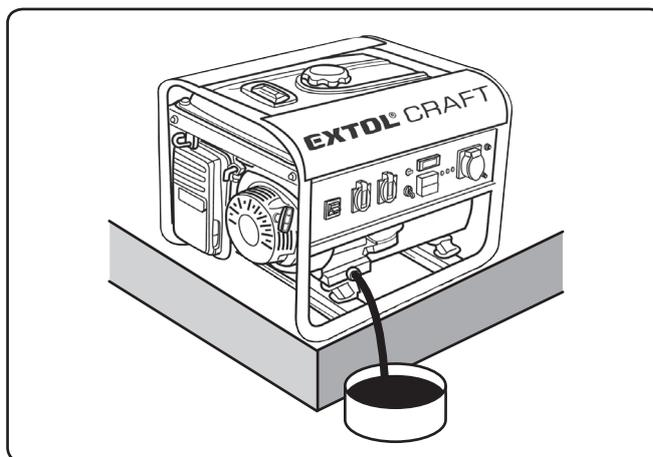

Fig. 22
1. **To drain the oil from the oil pan of the generator's engine, raise it in a higher position to enable oil to flow out into a prepared container (see fig. 22).**